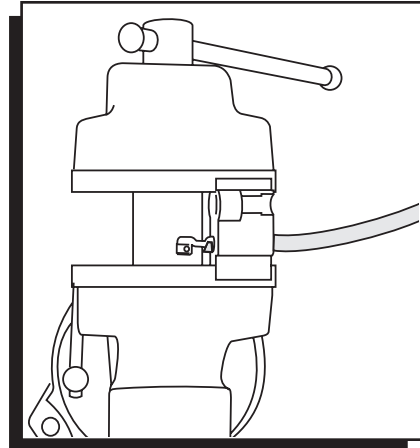

Figure 9
5. Slowly close the vise making sure the tool and terminal stay properly positioned and aligned (Figure 9). Stop applying pressure when the terminal ends have wrapped securely around the sleeve and grip the wire.